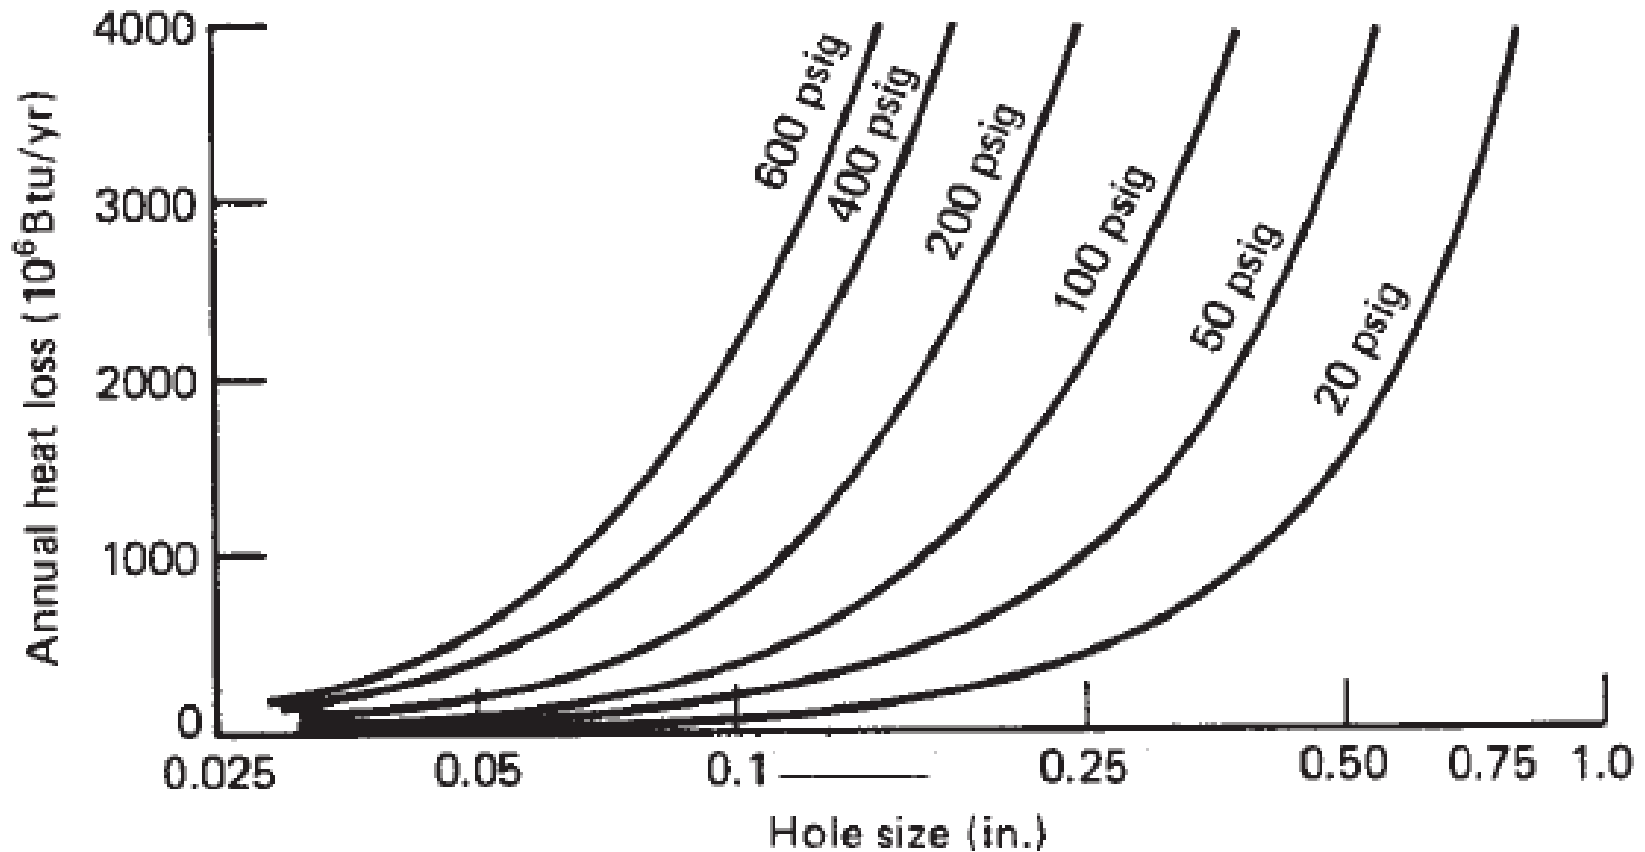

Fig. 6.4 Heat loss from steam leaks.
- Figure 6.4 permits estimation of loss of steam at various pressures leaking through holes represented in million Btu/yr, based on full-time operation.